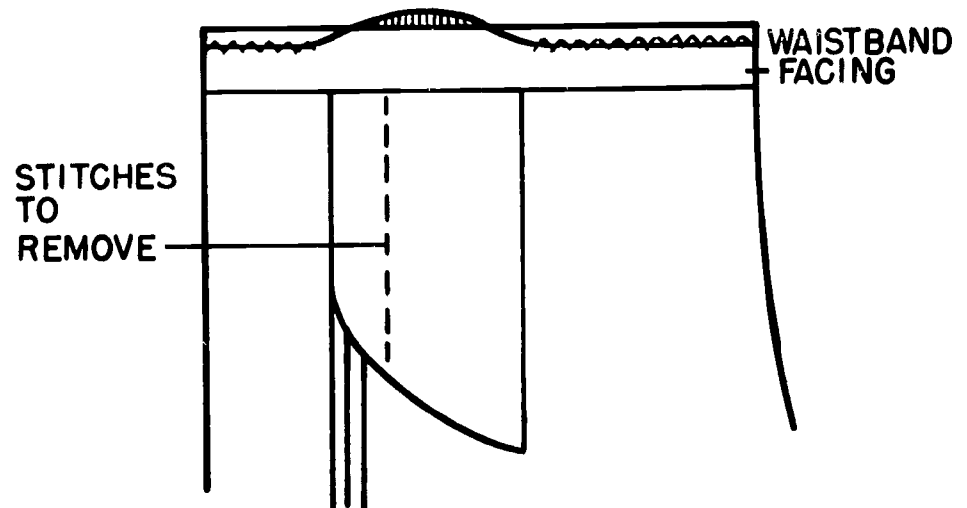
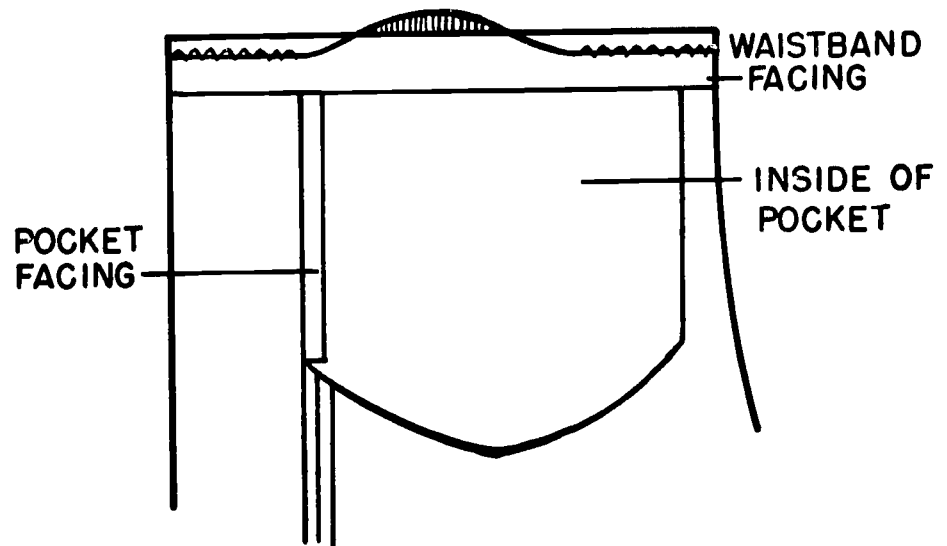

Figure 80.
Figure 81.
3. If bar tacks at the bottom and top of the pocket are sewn through the pocket, cut around them, but do not rip them out. Rip out stitching that attaches pocket facing to pocket on top side of pocket (see Figure 80). When this is ripped, the pocket will open up as shown in Figure 81.